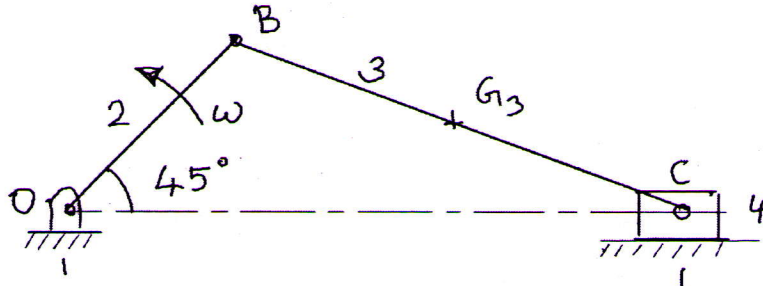

Figure 3
- 3 a) State and explain D'Alembert's principle (2)
- b) Determine the magnitude and location of the equivalent offset inertia force acting on the connecting rod (link 3) of the mechanism shown in Fig. 3. The crank (link 2) has a constant angular velocity of 100 rad/s in counter clockwise direction. The mass of the connecting rod is 0.2 kg and the moment of inertia about the centre of mass  $G_3$  is  $300 \text{ kg mm}^2$ .  $OB=40 \text{ mm}$ ,  $BC = 100 \text{ mm}$ ,  $BG_3=50 \text{ mm}$ . (8)